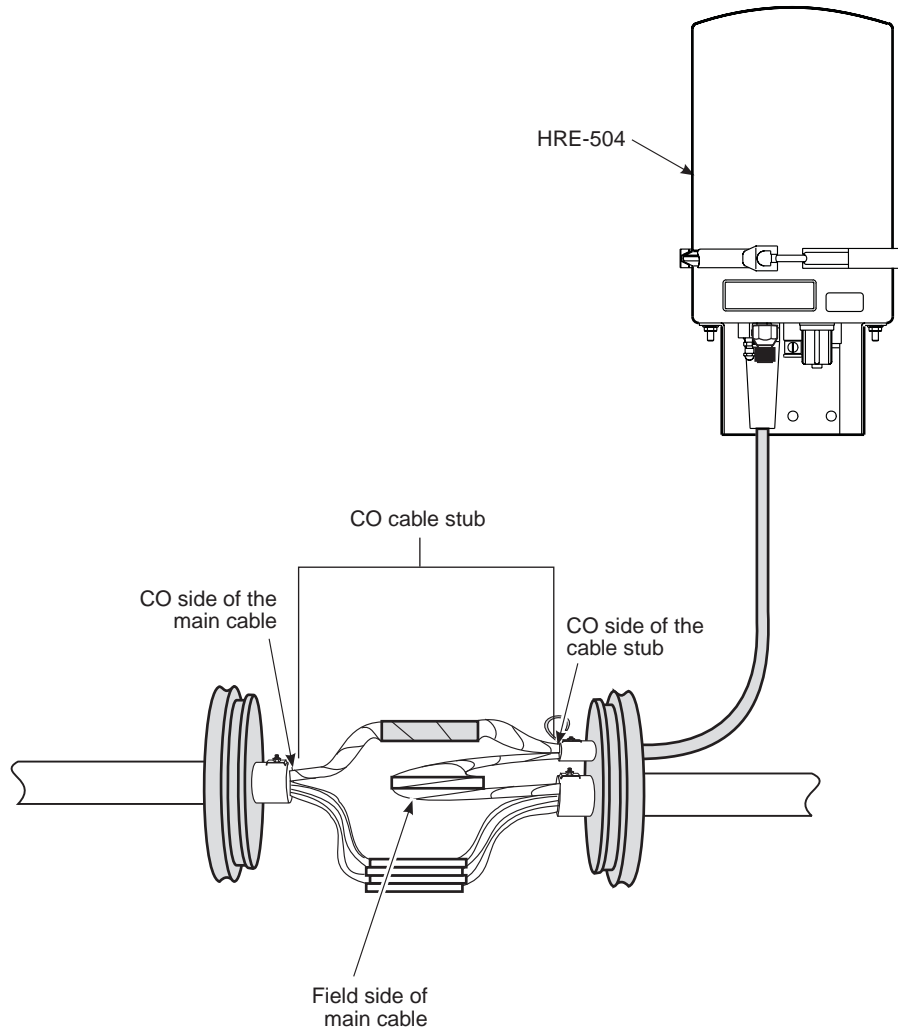

Figure 16. *Post-Splicing Procedure*
- 1 Starting at the cable-stub butt of the CO cable stub, wrap the pairs on one side of the screen with $\frac{3}{4}$ -inch, self-bonding rubber tape. Overlap the tape by one-half its width, as shown in Figure 16 on page 36.